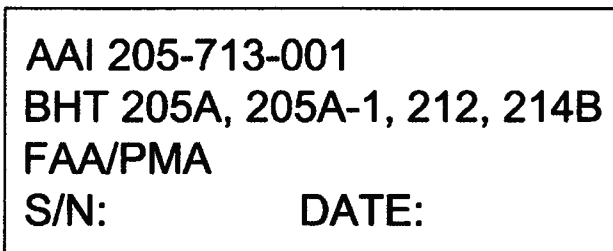

FIGURE 2 – DECAL, P/N 099-091-020
4. Apply decal (Figure 2) to window, covering incorrect window identification information.